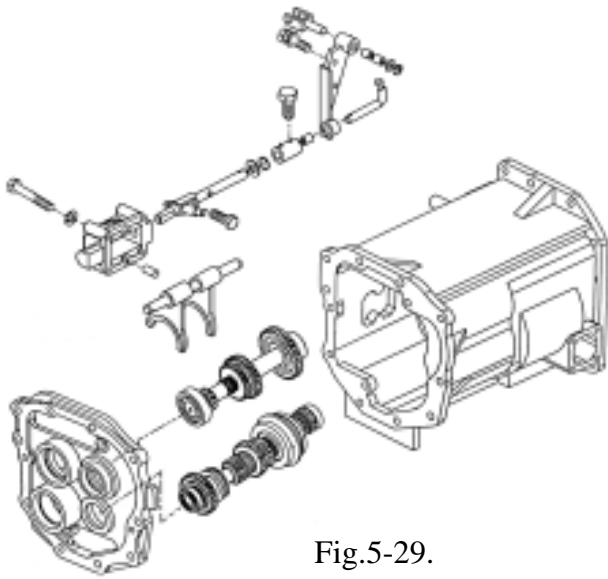

Fig.5-29.
c. Remove the shift stays from the shift metal and remove the gears assemblies as shown Fig.5-29.